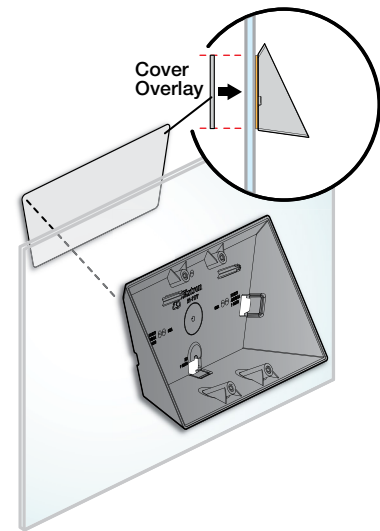

Figure 5. Attaching the Rear Cover Overlay
- (1) Rear cover overlay can be attached to the opposite face of the glass to conceal the adhesive patch (see figure 5 on page 3).
2. Position the cover overlay behind the AMK enclosure and secure it to the glass (see figure 5).